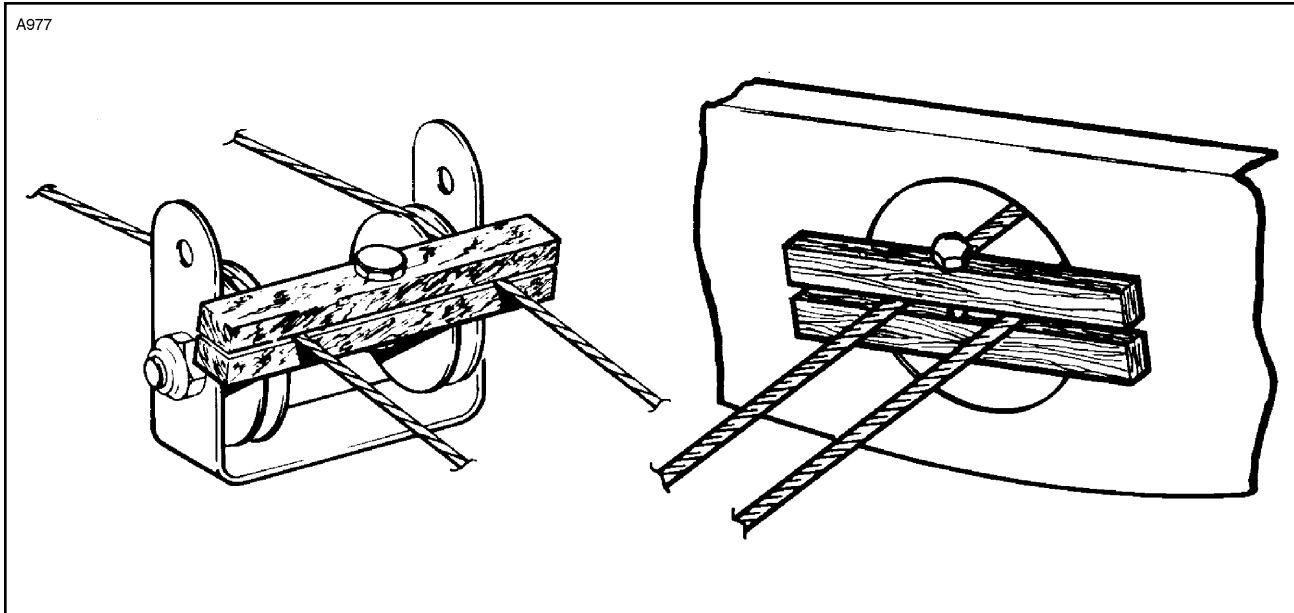

Figure 5-14. Methods of Securing Trim Cables
- b. If the aft trim cable (12) is not to be removed, block the cables at the pulleys (13) in the upper aft section of the fuselage to prevent them from unwrapping from the trim drum. (Refer to Figure 5-14.)
- c. Loosen the cables if the trim control wheel (1) is to be removed or disconnect if the cables are also to be removed. Do this at the trim cable turnbuckles (10 and 11) in the aft section of the fuselage.
- d. The control wheel (1) with drum (3) may be removed by the following procedure:
2. The wheel assembly may be removed from its mounting brackets by removing nut, washer and bolt (8) that cures the wheel between the brackets. Draw the wheel from the brackets. Use caution not to damage trim indicator wire (2).
3. Unwrap the left cable (9) from the drum.
4. The wheel and drum are joined by a push fit, separate the two items with their center bushing and unwrap the right cable (8).
- b. Block the trim cables at the first set of pulleys (33) forward of the cable turnbuckles (10 and 11) in the aft section of the fuselage by a method shown in Figure 5-14.
- c. Disconnect the cable (12) at the turnbuckles (10 and 11) in the aft section of the fuselage.
- e. Disconnect the link (25) between the trim screw (23) and the trim control arm (28) by removing the nut, washer and bolt (24) that connects the link to the screw.
- f. Remove the cotter pin from the top of the screw (23), and turn the screw down and out of the barrel (20).
- g. Remove the snap ring (32), washer (31) and thrust washer (30) from the bottom of the barrel.
- h. Disconnect the diagonal rib (22) from the horizontal rib (16) that supports the trim assembly by removing the four attaching nuts, washers and bolts.
- i. Draw the trim cable (12) from the fuselage.
2. Bring upper cable through diagonal slot in flange at upper end of barrel (20), and wrap down in counterclockwise direction.
- b. Clamp cables between two pieces of wood to prevent unwrapping. (Refer to Figure 5-14)
- c. Check barrel bushings(19 and 29) are installed in rib plate (17) and clip (21).
- d. Lubricate bushings and install trim barrel (20) in the bushings between the two support ribs. Attach bottom diagonal rib (22) to horizontal rib (16)and secure with bolt, washers, and nuts.
- e. Install thrust washer (30), washer (31), and snap ring (32) on low end of barrel.
- f. Install trim screw (23) in barrel (20) and secure each end with cotter pin through the screw.
- g. Attach link (25) between trim screw and trim control arm (28). Check bushing and sleeve are in place before installing bolt, washer and nut (26).
- j. Set cable tension and check rigging and adjustment per paragraph 5-25. Check safety of all turnbuckles and install pulley guard pins (38).